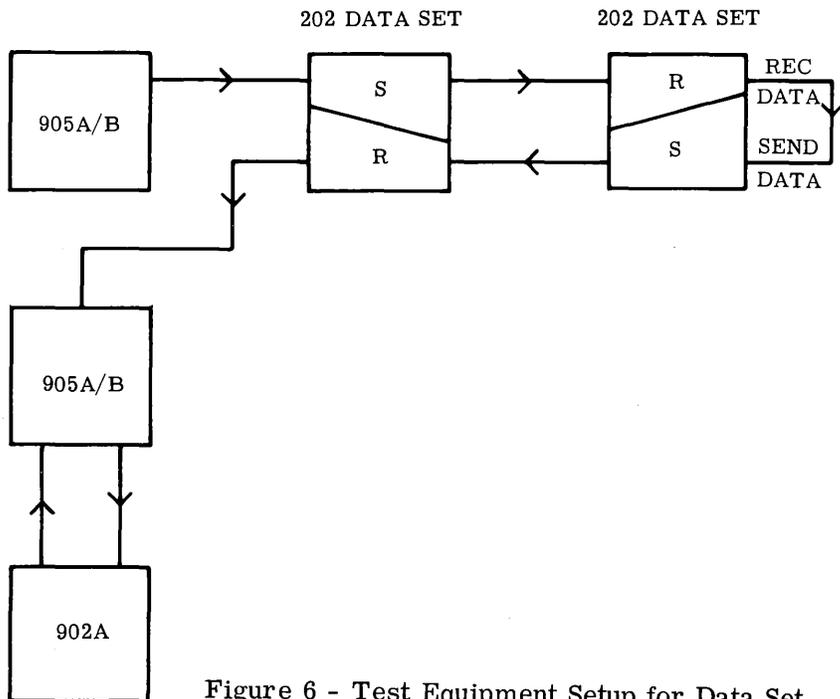

Figure 6 - Test Equipment Setup for Data Set Loopback Test
4.16 Evaluation of data set performance and interconnecting lines is made with this test (Figure 6). An operator at the system location should be instructed to place the MAINTENANCE TEST SWITCH in the DATA SET position. Press the TEST ON switch. The receive data line of the data set is connected to its transmit circuit, routing back on the transmit circuit whatever is received on the receive data lines. See appropriate BSP section for distortion tests.